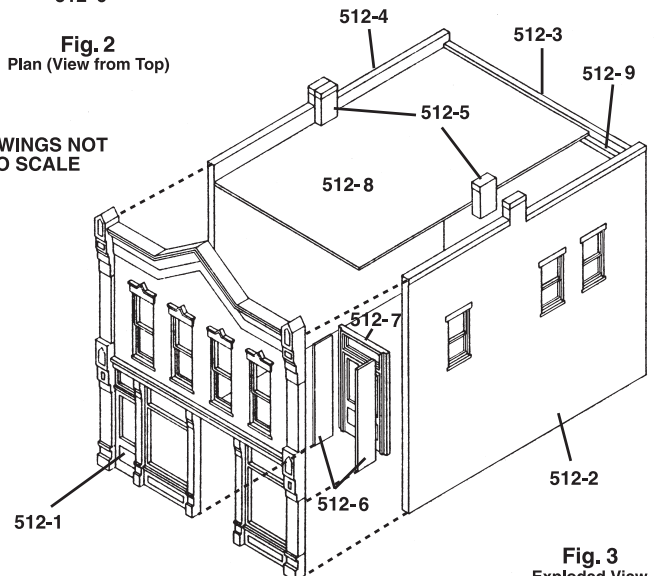

Fig. 3
- Install Roof (512-8) through bottom of building and glue to bottom of Chimney Backs (Fig. 3).
- Glue one Roof Support to bottom of Roof and Front Wall and one to bottom of Roof and Rear Wall (Fig. 3).
1. After glue is set, place building on its face and sand lightly in a circular motion (Fig. 3).